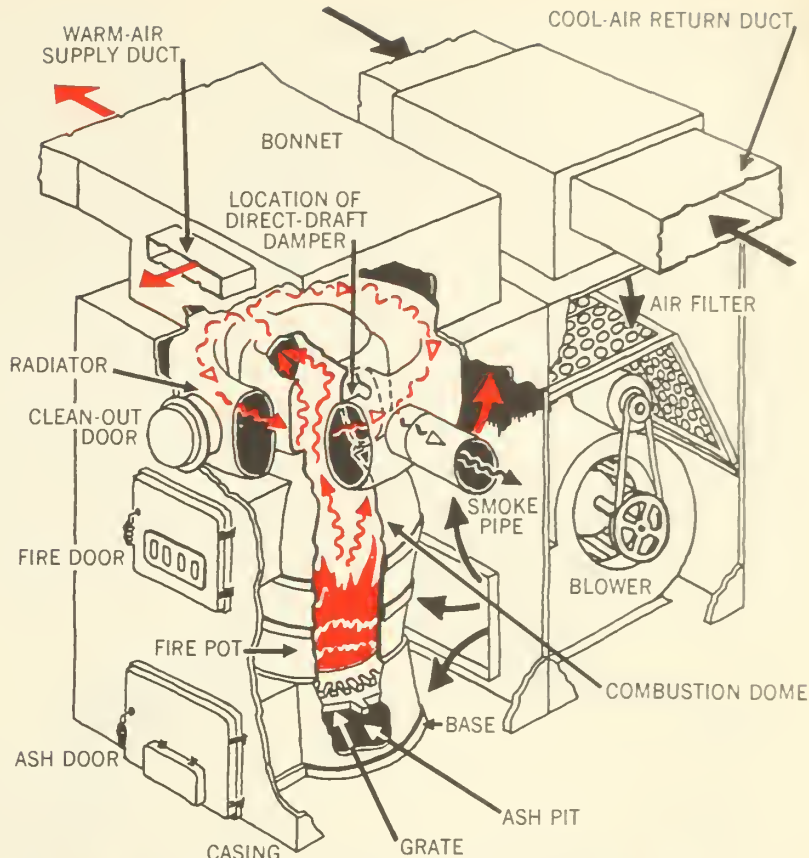
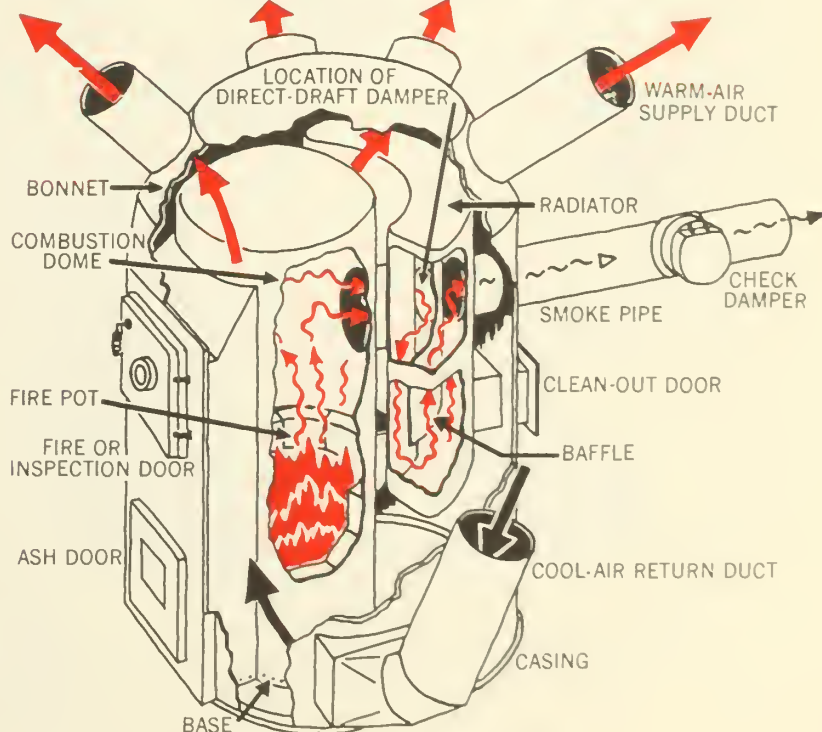
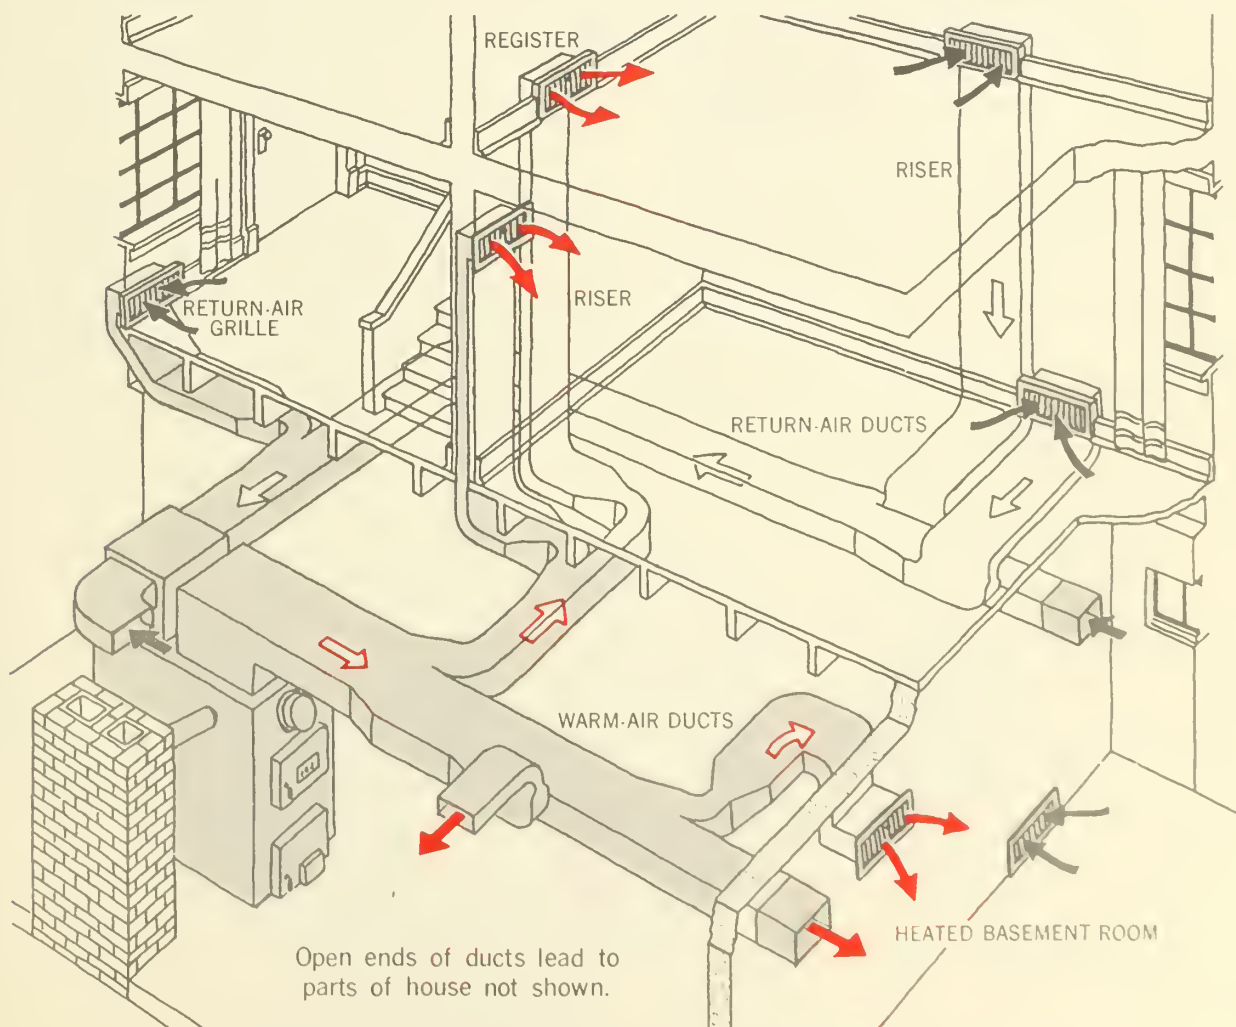

Figure 7.—Cast-iron furnace with blower.
Figure 8.—Steel furnace.
Figure 10.—Forced warm-air system.
A furnace is made of cast iron (fig. 7) or steel (fig. 8) and consists of a base, fire pot or hearth, combustion dome, and radiator. When solid fuels fired by hand are used, an ash pit and grate (fig. 7) must be included. These parts are surrounded by a galvanized-iron or enameled jacket on top of which is the bonnet. Air passes through the space between the fire pot wall and the outer shell, or jacket, receiving heat as it moves over the hot fire-pot walls. It is essential that the fire pot (combustion chamber) be tight to prevent the escape of smoke and gases. Air for burning may move through the furn-
**Forced Warm-air.**—Warm-air systems with forced circulation (fig. 10) are more expensive but they have certain advantages. The furnace does not have to be below the rooms to be heated, nor centrally located, because circulation of air is controlled by a fan or blower (fig. 7). The greater air pressure means that an air filter can be used, ducts may be longer and narrower, may run horizontally, and need not be all the same length. Return-air grilles can be placed in the baseboards.